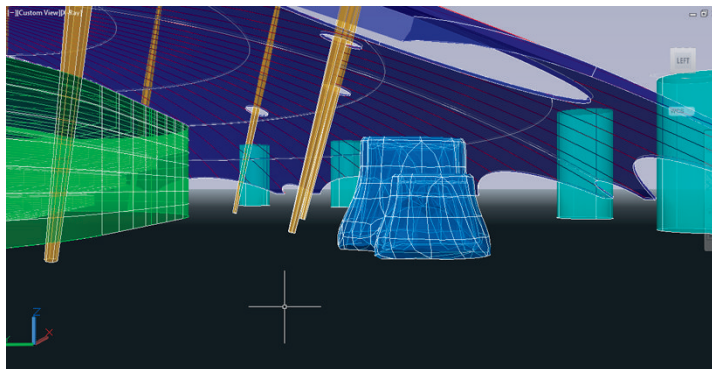

FIGURE 16.18 Looking through the camera
7. Right-click in the drawing window, and choose Set Camera View from the context menu that appears. Drag the mouse wheel downward to move the camera and its target upward, as shown in Figure 16.18.